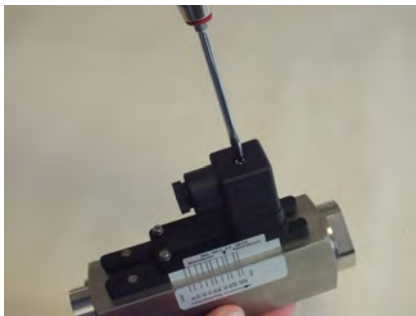

Fig. 73: Loosen female socket
1. ▶ Loosen the fixing screw of the female socket (Fig. 73) with a flat-bladed screwdriver.